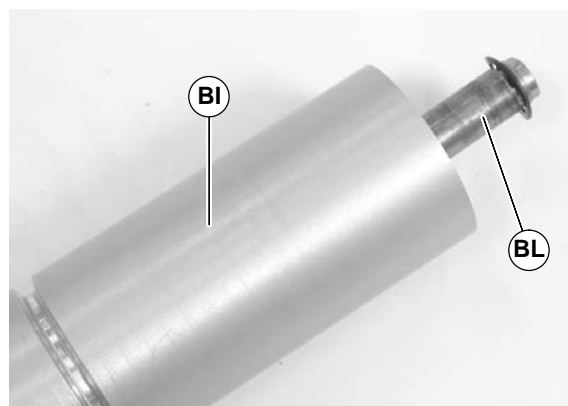

Figure 48
6. Slide the shaft assembly (BL of Figure 48) out of the pulley (BI).
6. Slide the shaft assembly (BL of Figure 48) out of the pulley (CN).